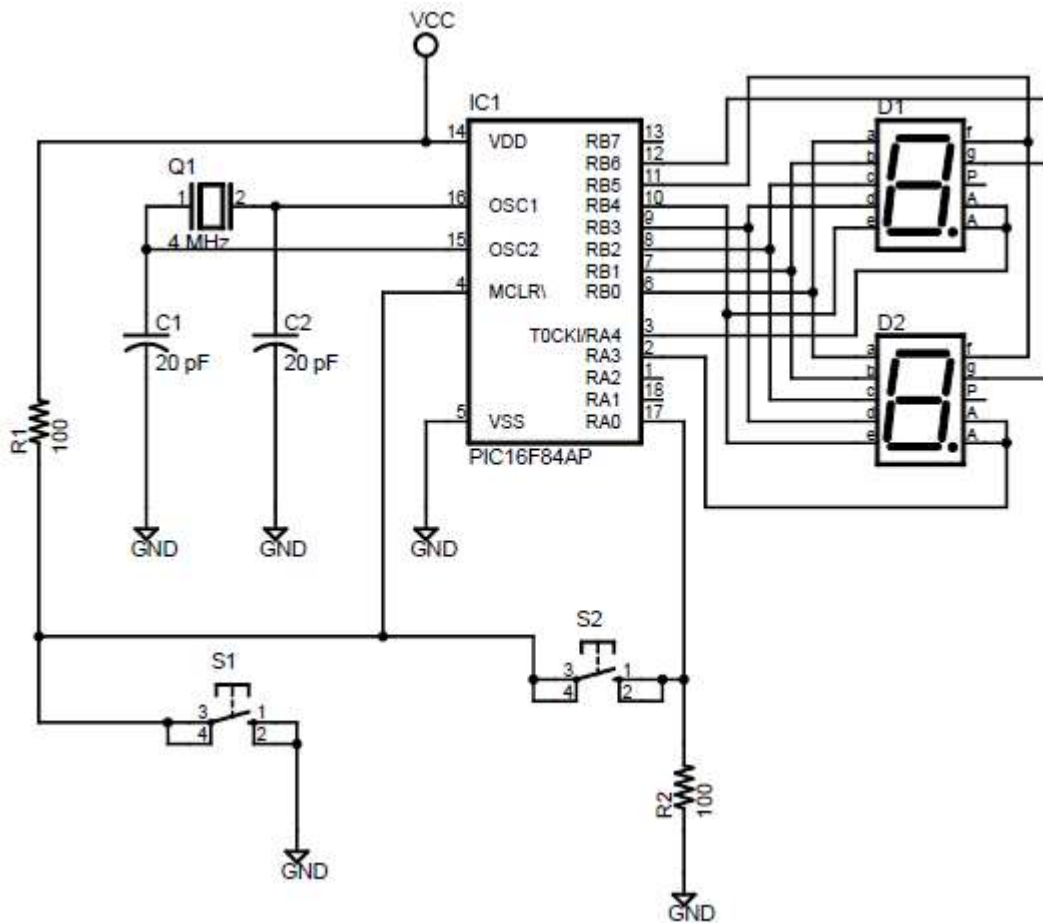

Figure 8 MCU-based two-digit counter.
Figure 8 is an MCU-based two-digit counter. The outputs are two common-anode seven segment display with a push button switch (SW2) to advance the counter. The other switch (SW1) is an MCU master reset.
1. Draw the circuit in Figure 8 using EAGLE schematic editor. Use standard and agreed schematic symbols and all components shall have through-hole packages. Replace non-standard designators. Properly terminate the power supply connection. Refer below for the library references of the components.